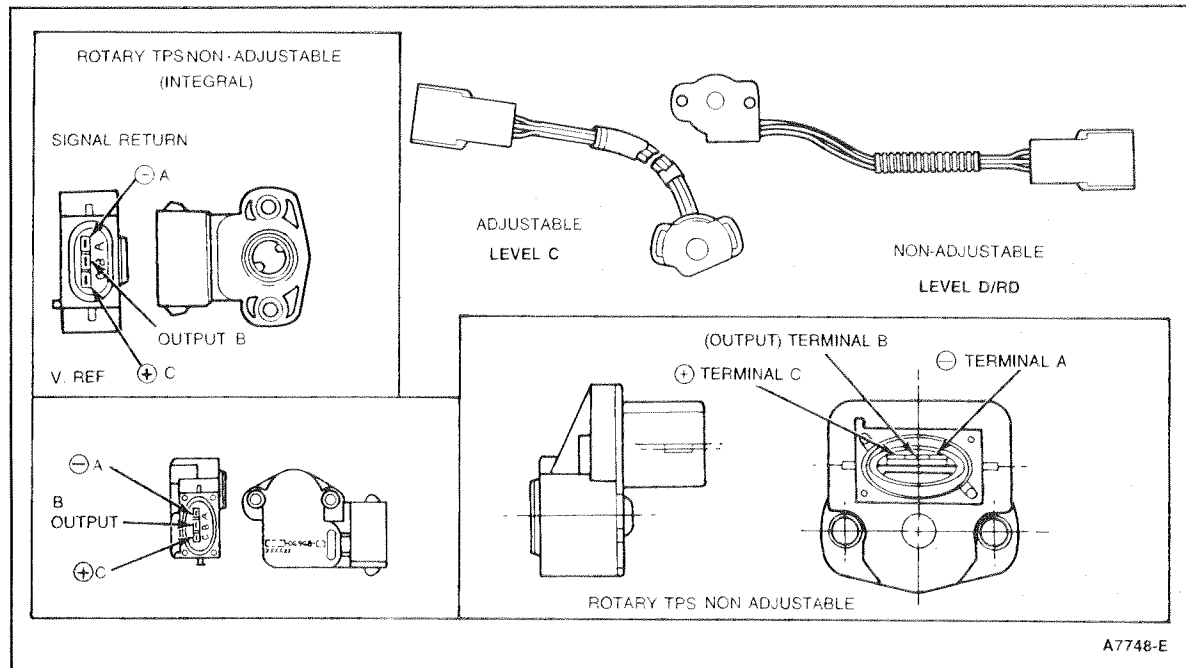

Figure 1 Throttle Position (TP) Sensor (Rotary)
The Throttle Position (TP) Sensor (Rotary) (Figure 1) supplies the ECA with a signal proportional to opening angle of throttle body throttle plates.